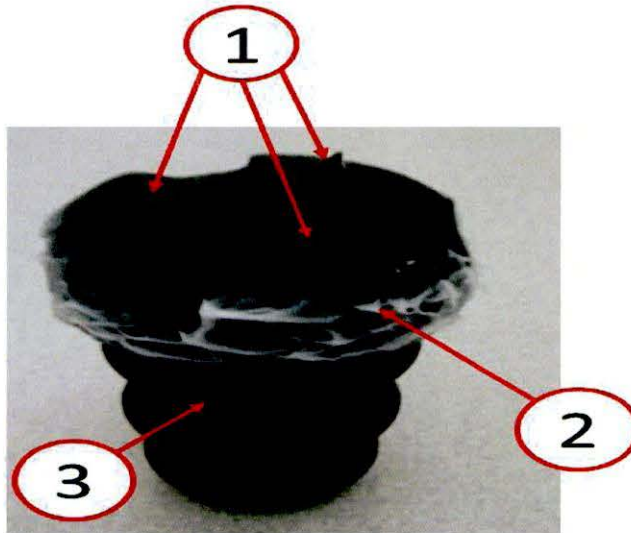

Fig. 5 RTV and Nye Grease
11. Apply a dab of RTV P/N 04883971 to the locators (1) and apply Nye Grease, P/N 05019061AA to the perimeter (2) of the jounce bumper as shown in (Fig. 5).